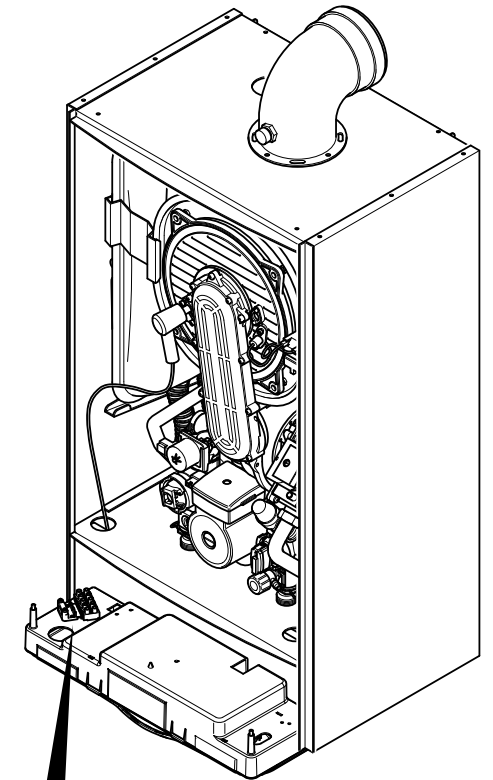

Fig. 36
3. Slacken the cable clamp on the terminal block (Fig. 36). Insert the external control wiring through the clamp and route it to the terminal block. Tighten the cable clamp.